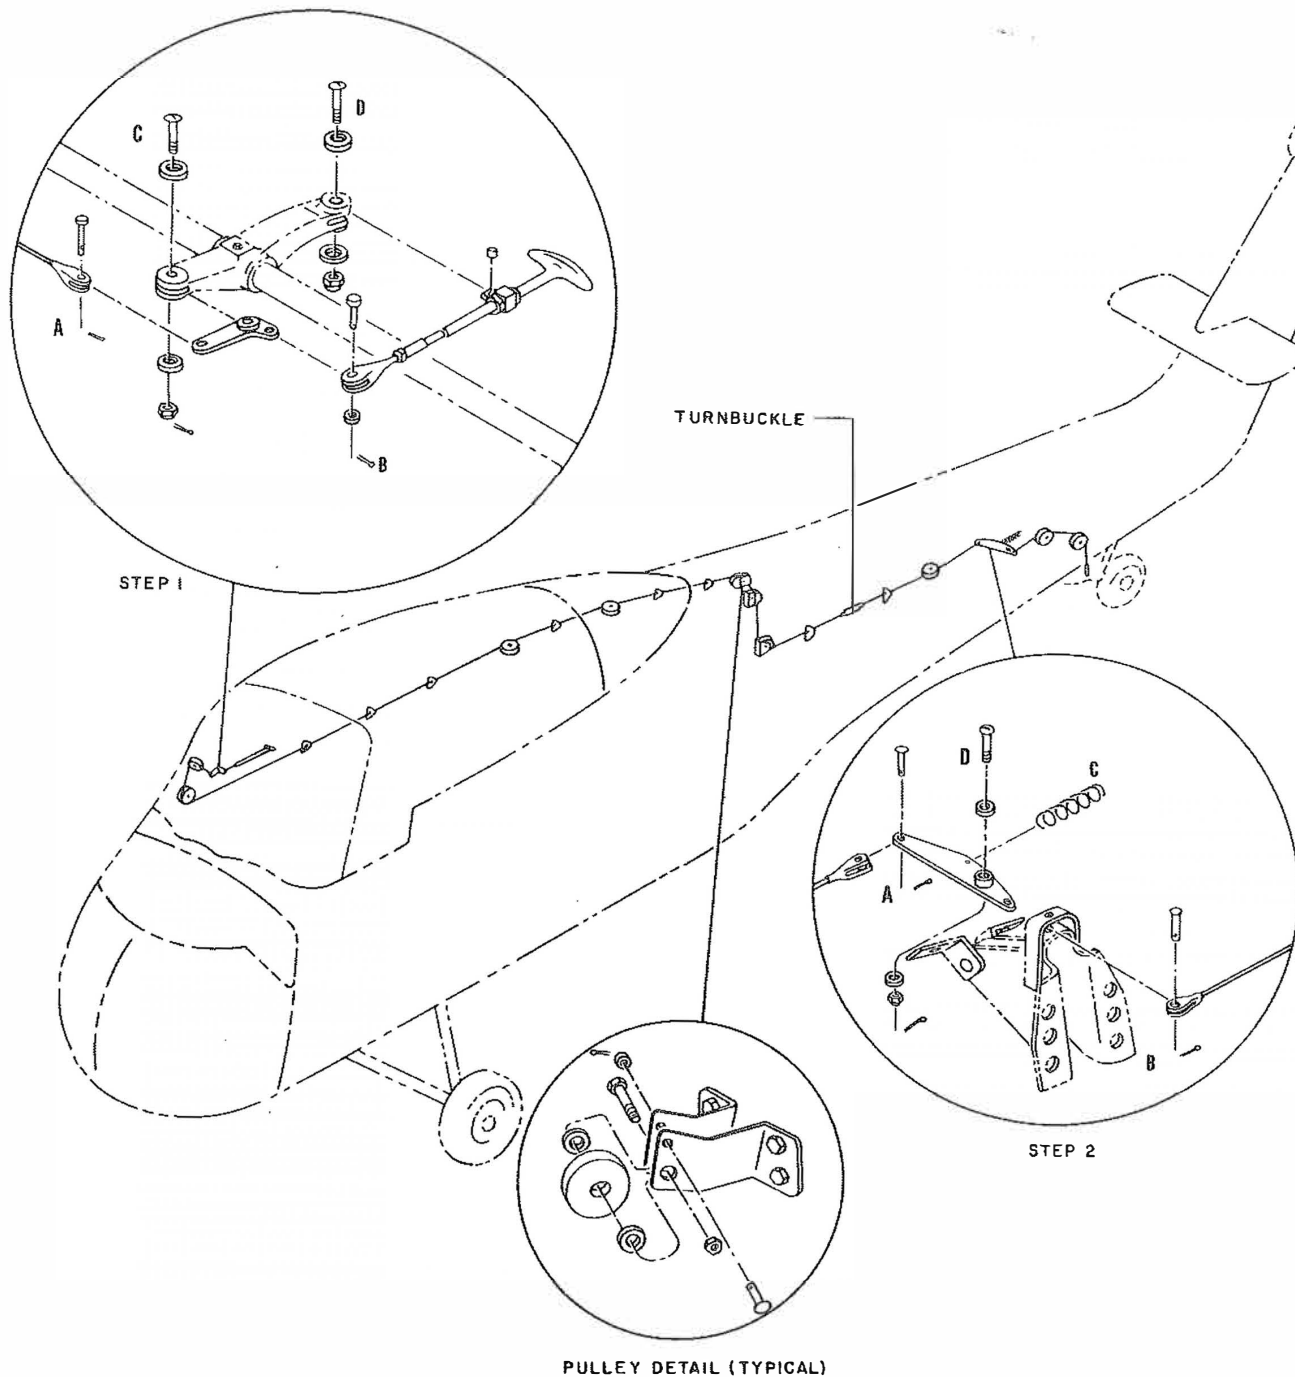

Figure 2-24. Tail Wheel Lock Control System
2-292. DESCRIPTION. (See figure 2-24.) The tail wheel lock control system consists primarily of a handle marked "TAIL WHEEL LOCK" and a bell crank mounted below the pilot's instrument panel, a two-section cable which extends from the cockpit along the right side of the helicopter to a spring-loaded bell crank in the tail cone and a second cable which extends from the spring-loaded bell crank to the spring-loaded tail wheel lockpin on the yoke and fork assembly of the tail wheel. The cables are routed through pulleys, guards and fair-leads. A turnbuckle barrel connects the two sections of the forward cable. Pulling the "TAIL WHEEL LOCK" handle under the instrument panel releases the tension on the tail wheel lockpin and locks the tail wheel in the trailing position. The lockpin is grooved so it will shear before damaging the collar if the lockpin is not properly disengaged.
2-293. REMOVAL. (See figure 2-24.)
f. Unbolt any pulleys that must be removed. Remove the pins, washers, and cotter pins from the brackets. (See pulley detail, figure 2-24.)
**2-294. INSTALLATION.** (See figure 2-24.)